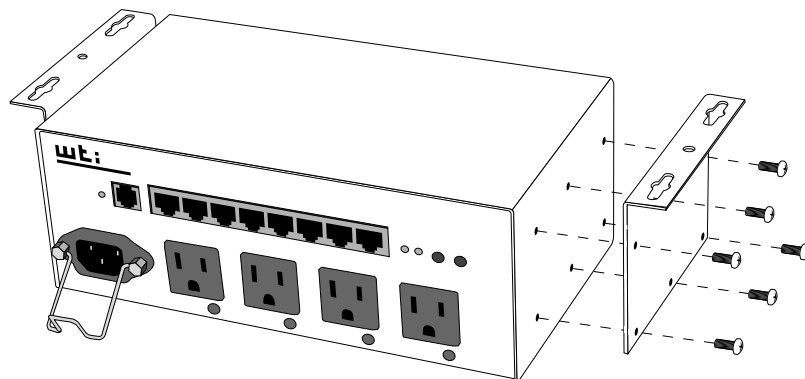

Figure C.1: Wall Mounting (Front Panel Facing Upwards)
- **Front Panel Facing Upwards:** Use the screws provided with the mounting kit to secure the wall mount brackets to the RSM-8R4-DCM unit as shown in Figure C.1. Use six screws per mounting bracket as shown.